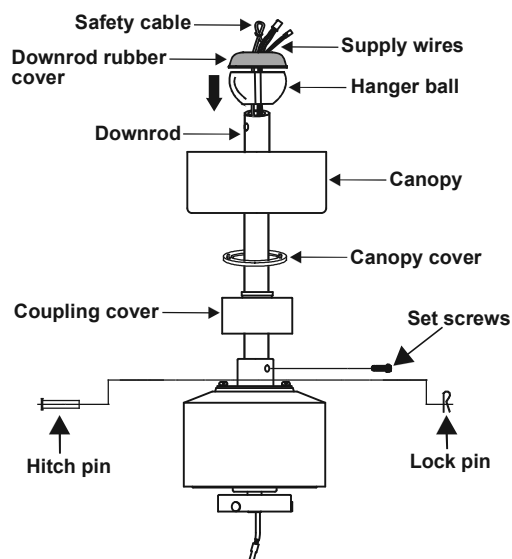

Figure 8
6. Route wires and safety cable exiting from the top of the fan motor through the coupling cover, canopy cover and canopy and then through the ball/ downrod. (Fig. 8)
7. Align the holes at the bottom of the downrod with the holes in the collar on top of the motor housing. Carefully insert the hitch pin through the holes in the collar and downrod. Be careful not to jam the pin against the wiring inside the downrod. Insert the lock pin through the hole near the end of the hitch pin until it snaps into its locked position. (Fig. 8)
9. Carefully reinstall the hanger ball back onto the downrod with cross pin and set screw. Place downrod rubber cover onto the hanger ball. (Fig. 8)